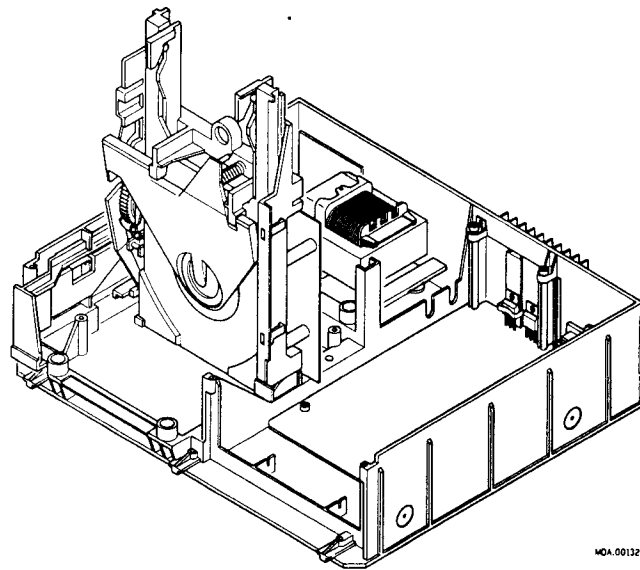

Fig. 3
(see Fig. 3)
- Now the tray mechanism/CDM/servo + pre-ampl. panel assy can be taken out of the frame and can be placed vertically in the appropriate servicing supports in the frame (see Fig. 3).